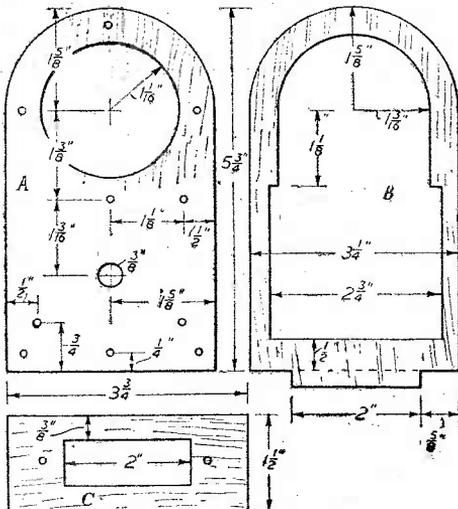

Fig. 1.—Size and shape of front panel, body and base.
The front panel (A) shown at Fig. 1 is cut from 1/4 in. thick plywood or fretwood. Before cutting the aperture into which the ear-phone piece fits, the casing of the 'phone unit should be measured to find its exact diameter. Therefore, try and pick up an odd, second-hand 'phone unit, particularly a unit having lead terminals on its back. If an all-bakelite unit is used, it will be necessary to cut a small notch in the edge of the aperture to allow for the leads protruding from one side of the casing.